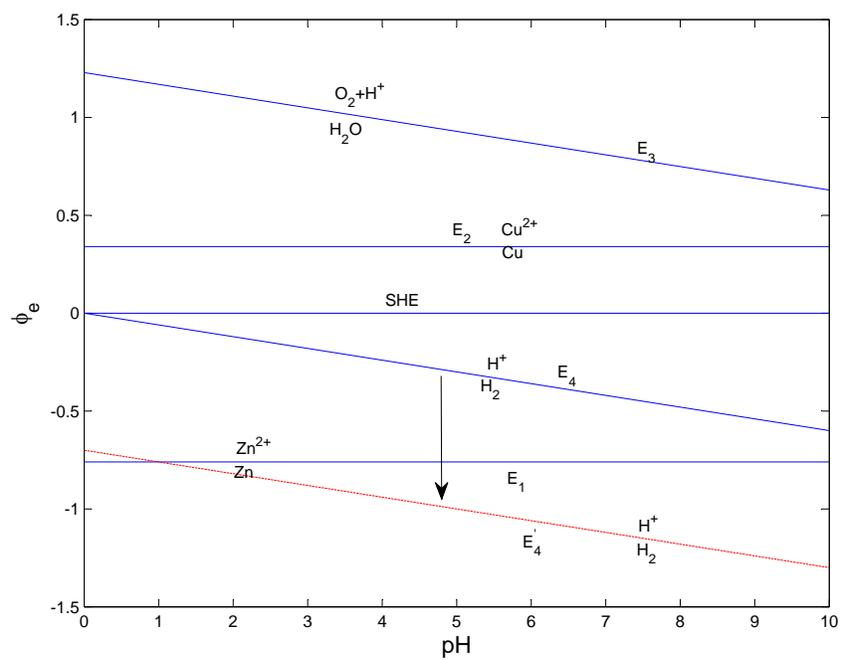

Fig. 3.— The Pourbaix diagram for the electrochemical system of the Zn-Cu-lemon fruit battery.
Assume (8) only happen on the anode, and (9) only on the cathode. The Pourbaix diagram is shown in Fig3.